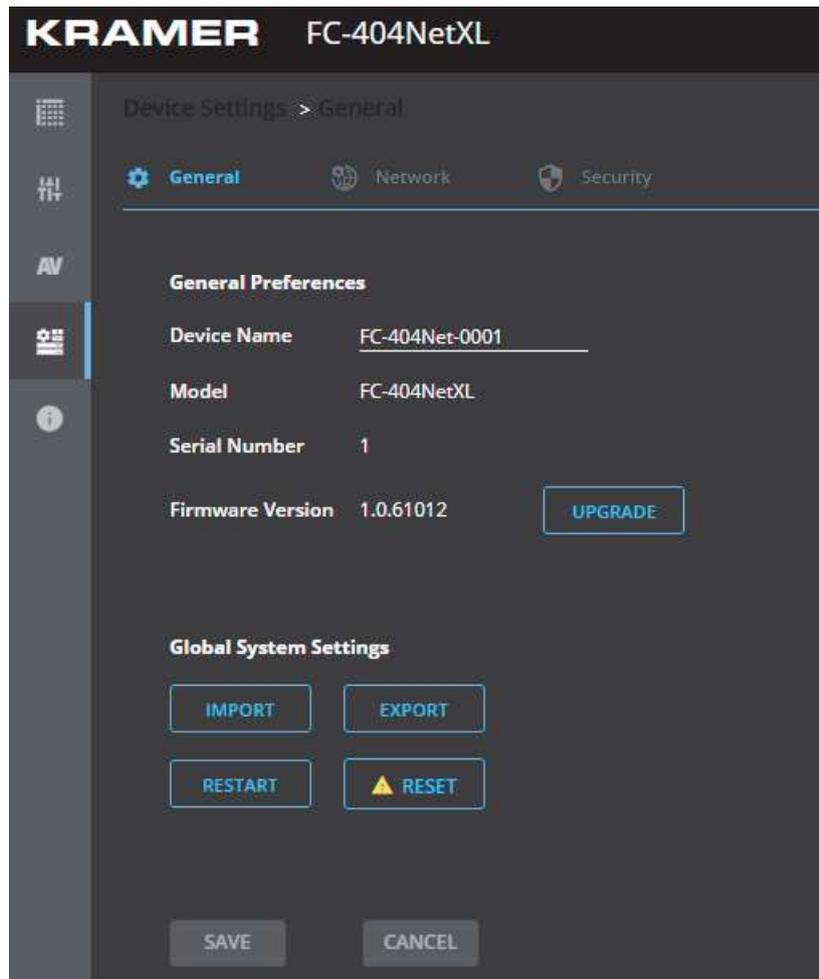

Figure 32: Device Settings Page
1. In the Navigation pane, click **Device Settings**. The General tab in the Device Settings page appears (see Figure 32).